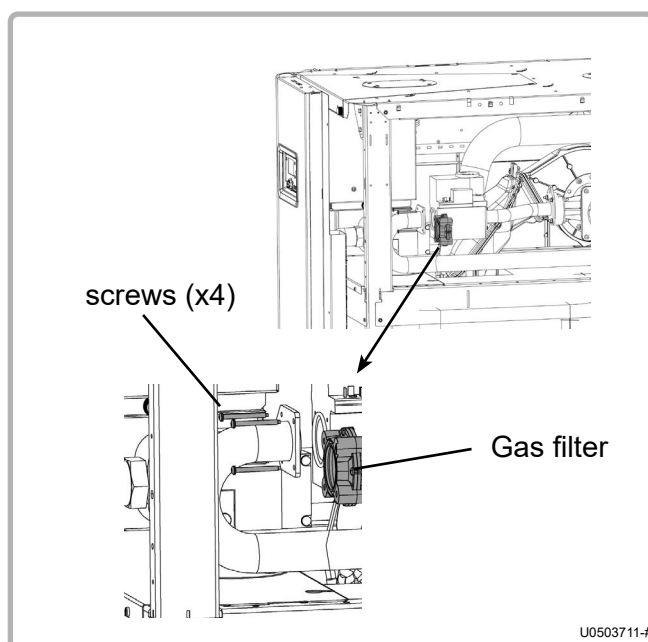

figure 47 - Gas filter on VARMAX 180 to 600
- Position the clamp (the word "UP" must be visible and the inner lug must be positioned on the rear axis of the boiler - see figure 47)
- Compress by pushing downwards and rotate the tool in a clockwise direction to lock the tube (see figure 47).